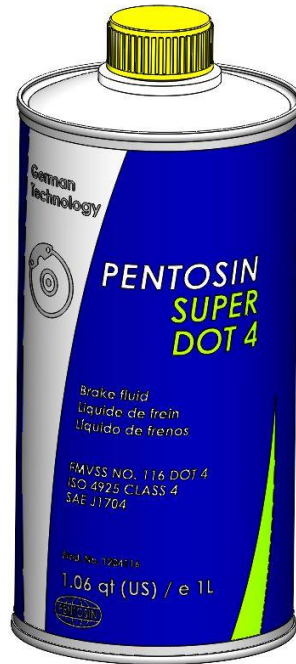

Figure 8 – Pentosin Super Dot 4
11. Once the master cylinder has been removed or replaced, make sure it is properly bench bled and then installed on the vehicle. Then the remaining brake system can be bled to remove all of the air from the system. **REMEMBER:** Master Power Brakes requires the use of either DOT 3 or DOT 4 brake fluid. We Recommend the use of Pentosin Super Dot 4 fluid as seen below in Figure 8 (**Available at Master Power Brakes P/N: ACJ1703**).